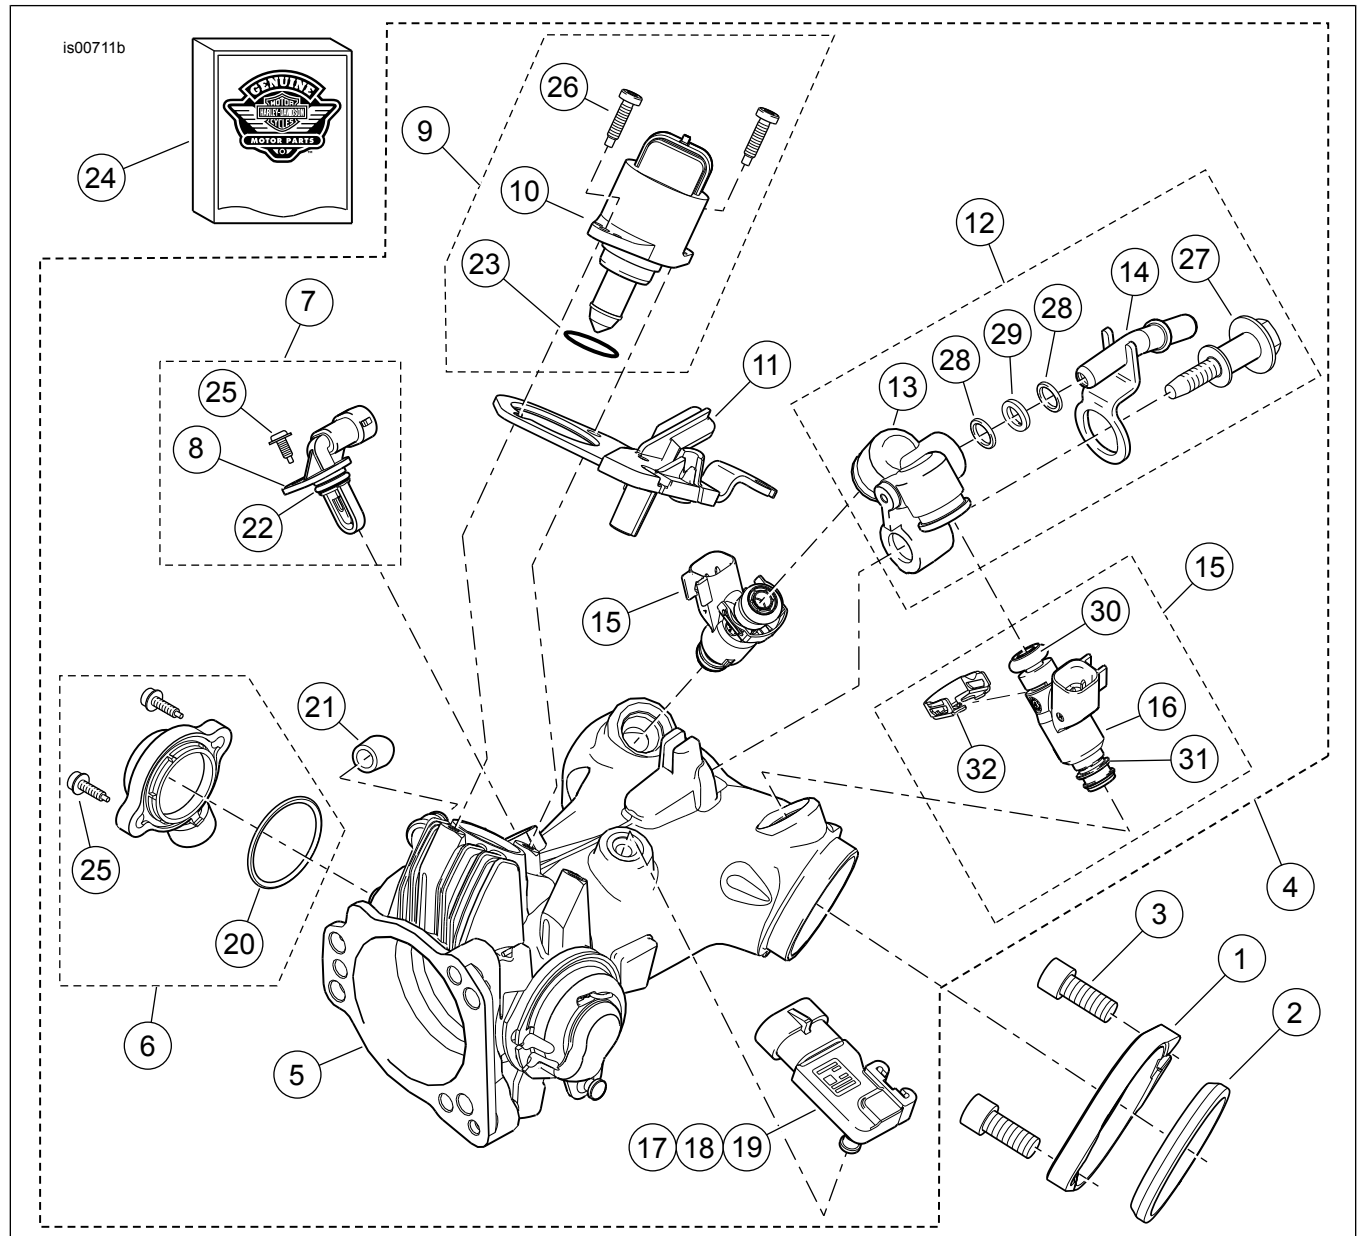

Figure 1. Service Parts, Screamin' Eagle Pro 50mm EFI Induction Module
See Figure 1 and Table 1.
- a. **For Dyna models only:** See Figure 1 and FUEL INJECTORS; REMOVAL in the service manual. Use a 10mm socket wrench to remove the screw (27) holding the fuel supply tube (14) to the original equipment fuel pod (13). Remove the fuel supply tube from the induction module by pulling it out of the fuel pod. Set the fuel supply **tube** aside for re-installation to the **new** induction module. The screw (27), O-rings (28) and sealing washer (29) can be discarded
- b. Remove the screw (27) holding the fuel supply tube (14) to the **new** fuel pod (13). Remove the fuel supply tube from the induction module by pulling it out of the fuel pod, taking care not to damage the **new** O-rings (28) and sealing washer (29). Place a few drops of Loctite[®] 243 (Blue) on the threads of the screw. See FUEL INJECTORS; INSTALLATION in the service manual. Install the **original equipment** fuel supply tube, and the **new** O-rings and sealing washer to the **new** induction module.
3. Using the **new** intake manifold seals (2) from the kit, install the **new** induction module per the instructions **for your model** found in the INDUCTION MODULE: INSTALLATION section of the service manual with the following exception:
- a. The two mounting flanges (1) in this kit are identical, with no need to determine the F (front) or R (rear) flange. The **new** flange can be identified by the number "44" embossed on the side facing the induction module.